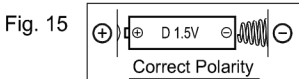

Fig. 9 Ref Section 5. Circle items ref Section 1.
- 5-1.Installation procedure (Fig. 9).
- 5.1.1. Ensure areas around soap tank release button^⑬, counter reset button^⑩and control box to spout cable connection^④ are clear for operation.